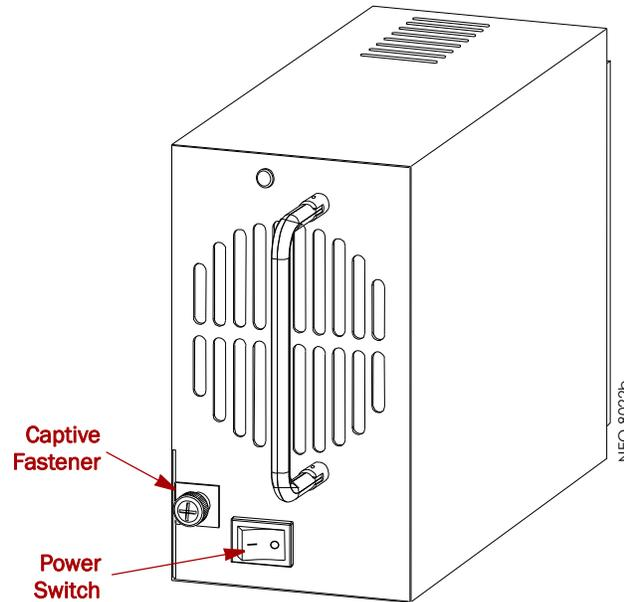

Figure 10-1: NEO 8000e Power Supply
2. Verify the power supply power switch is in the **OFF** position and the **captive fastener** in the lower left corner is open and down (Figure 10-1).